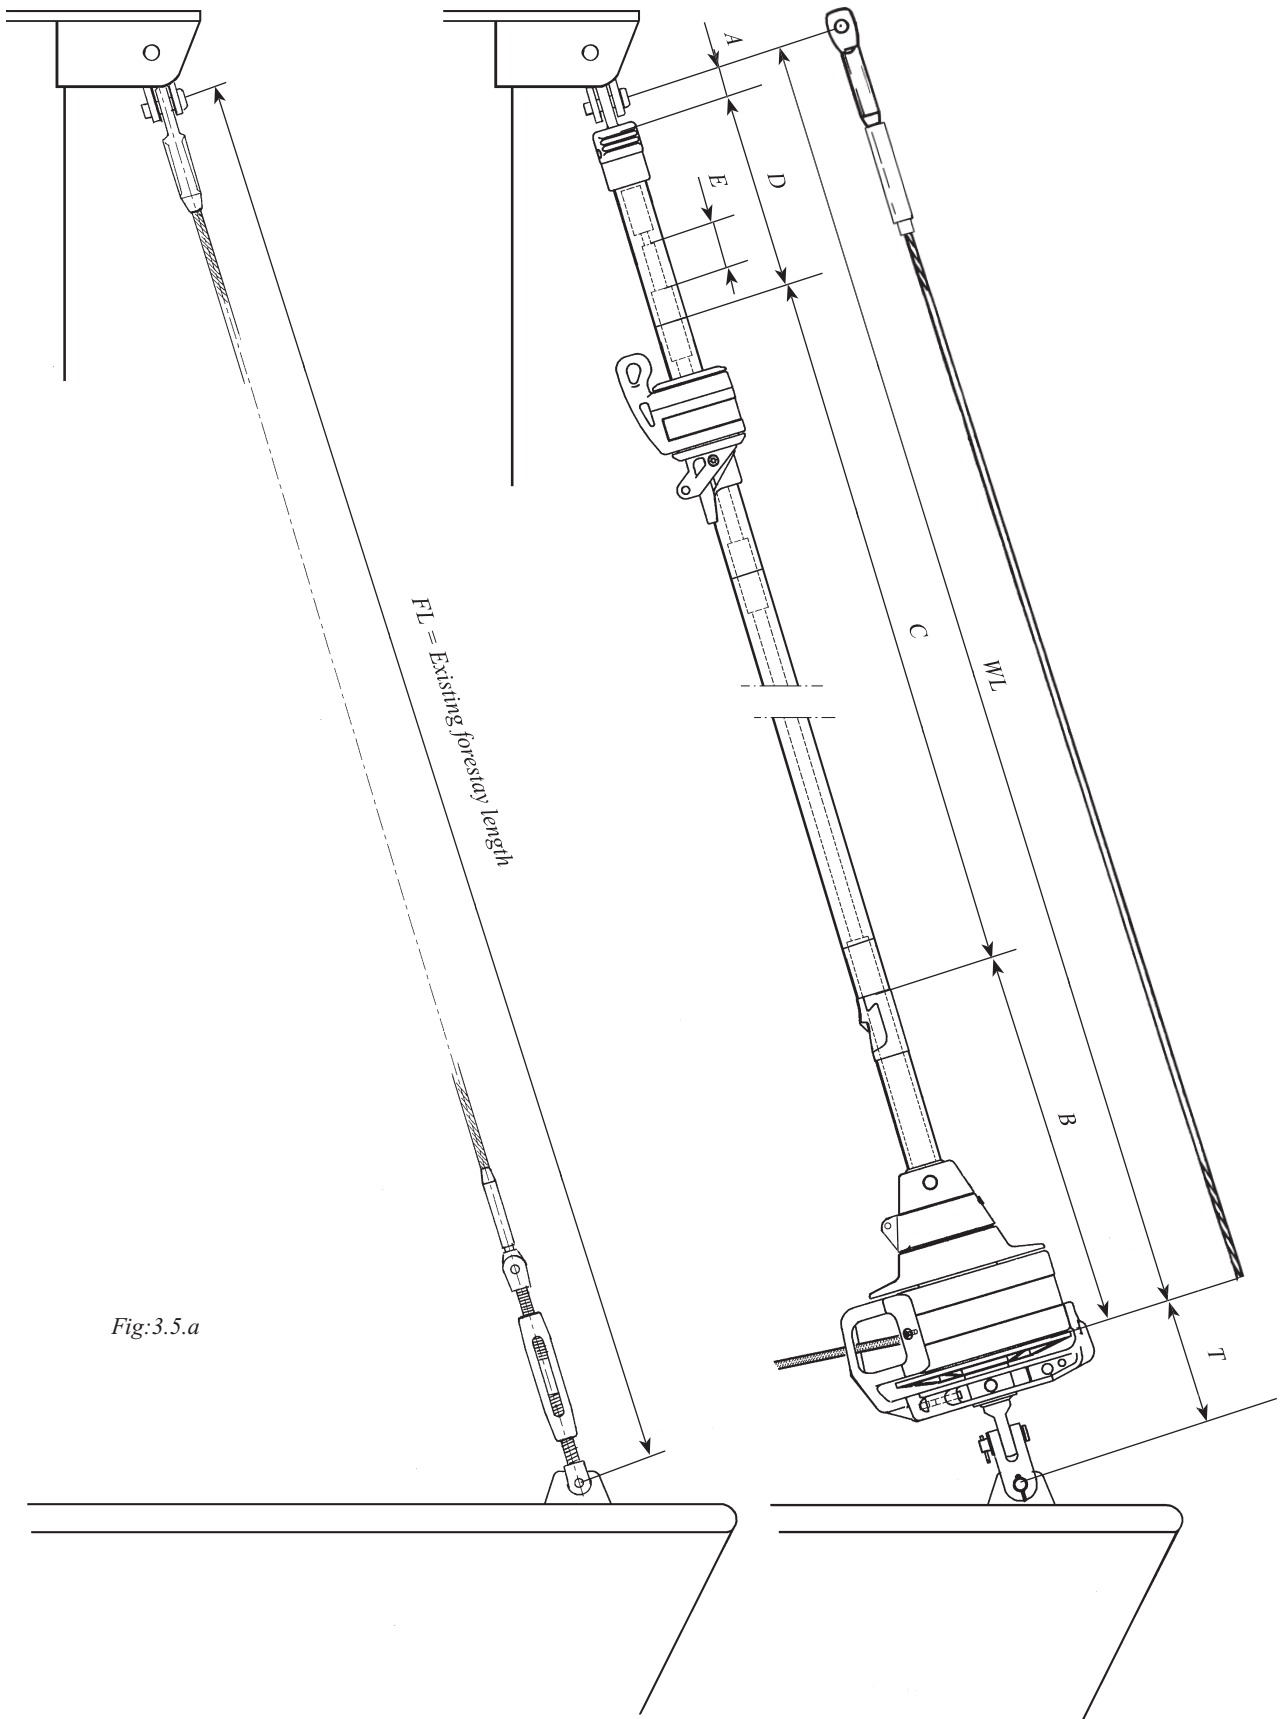

Fig:3.5.a
16. Check the length FL of the stay acc. **"Table 1"** (3.5.1) & Fig: 3.5.a. If the Furlex rigging screw is fitted, it should be 50% extended. (**"Rigging screw adjustment"**, see table 14.1.1.)